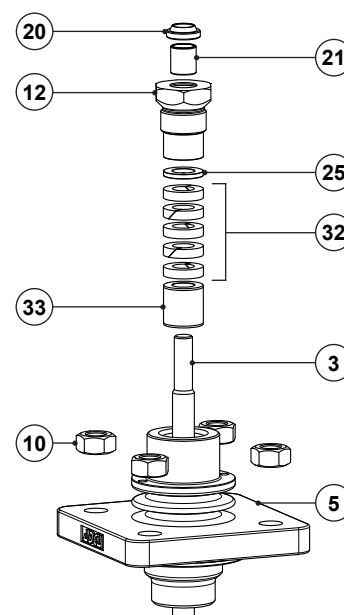

Fig. 11 - Graphite (G1)
1. Unscrew the lock nut (13) from the stem (7).
2. Unscrew the gland nut (12) and remove it carefully.
3. Carefully pull the plug (3) with plug stem (7) out of the bonnet (5) through its bottom. Inspect the stem surface and plug sealing surface, replacing if necessary.
4. Pull out the washer (25), graphite packing set (32) and spacer (33) using a suitable tool.
5. Clean the packing box and slide the stem (7) into the bonnet (5) once again.
6. Insert the spacer (33), and the new graphite packing set (32) rings one by one. When fitting the graphite rings ensure the scarf joints have an offset from the one below by 90°. See Fig. 11.
7. Renew the scraper ring (20) and plain bearing (21) if necessary.
8. Fit the washer (25), apply a slight smear of anti-seize lubricant to the gland nut (21) and screw it loosely with your fingers until resistance can be felt. The packing must not be significantly compressed at this stage.